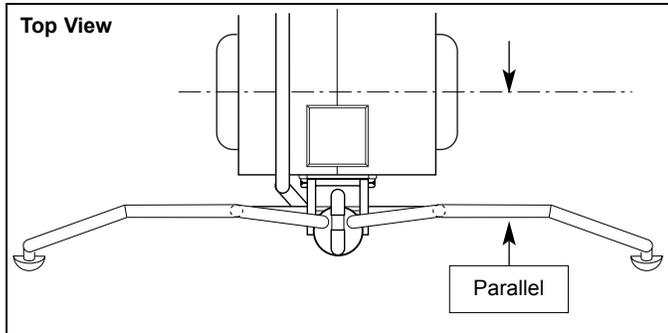
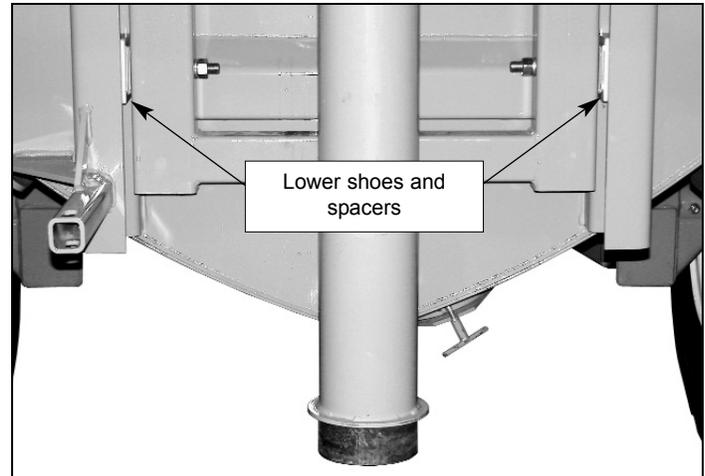

Fig. 10
Fig. 12
2.7. Compare the level of the tool bar with the level of the spreader. The imaginary line that connects the three deflectors must be parallel to the spreader axles - *fig. 10 and 11*. Assemble the lower nylon shoes and level the tool bar using the spacers - *fig. 12*.